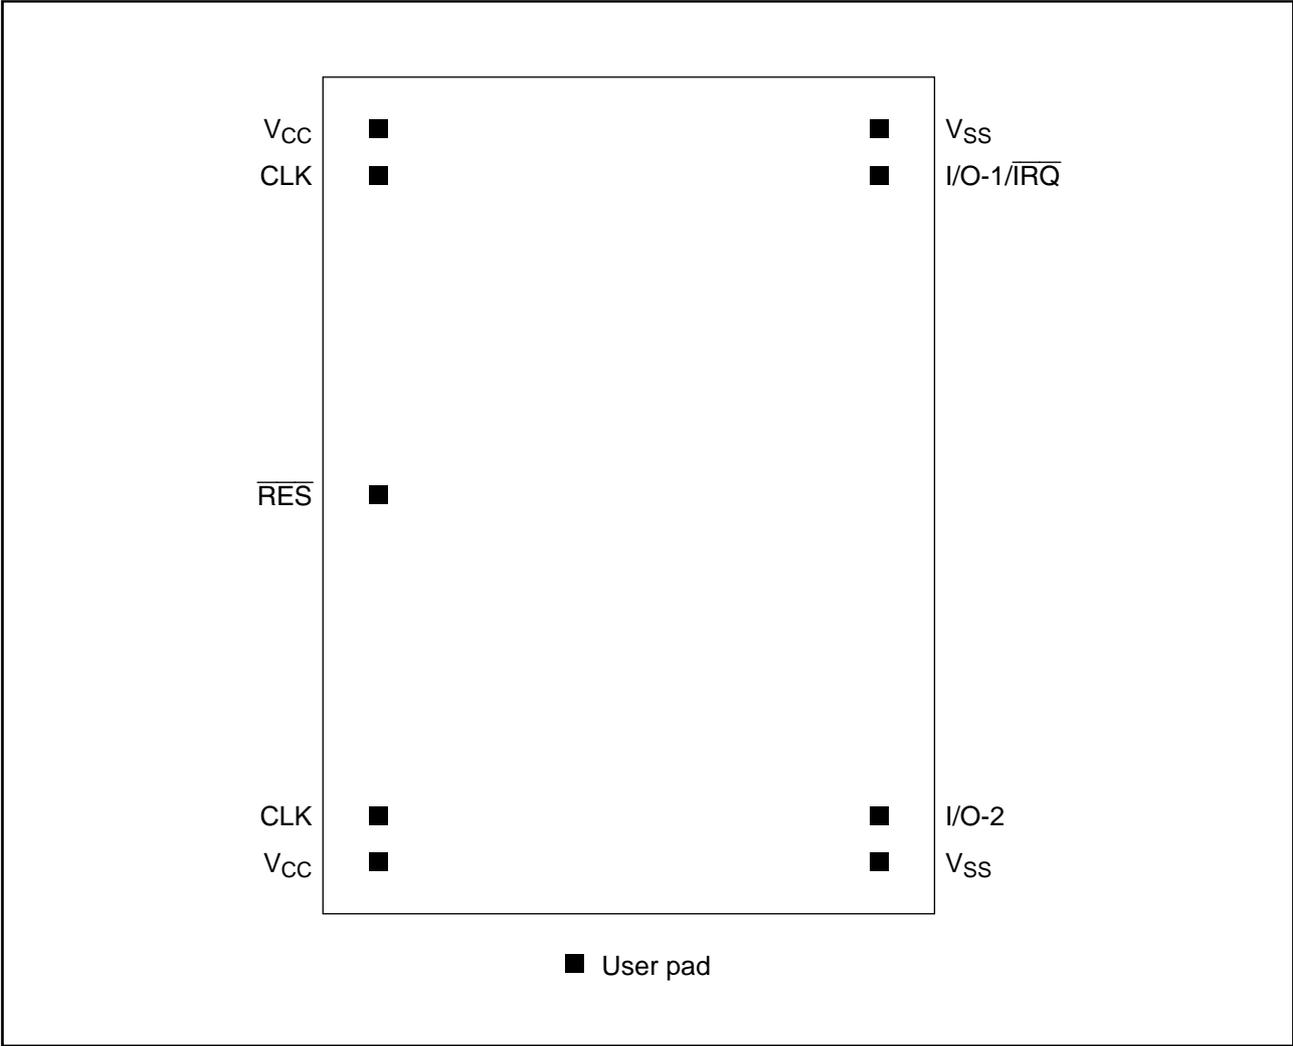

Figure 1-3. Bonding Pad Arrangement
*2 An input pull-down MOS is connected to the \overline{RES} pin as shown in figure 1-3 to avoid incorrect operation when \overline{RES} pin input is at high-impedance. The input pull-down MOS therefore consumes current when high level is input to the \overline{RES} pin while the chip is operating. During sleep mode, the input pull-down MOS is in off-state.